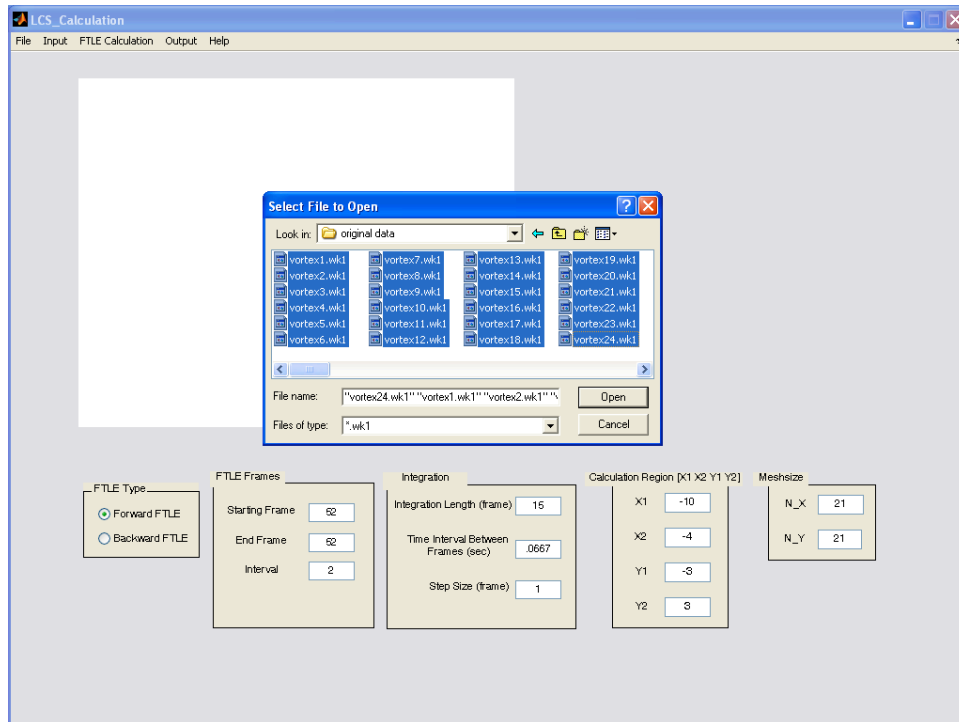

Figure 2.1
- 2.1 From the GUI, select from menu 'Input -> Load Original Data'. A 'Select File to Open' dialogue box appears. Select the velocity files and click 'Open' (Fig. 2.1).